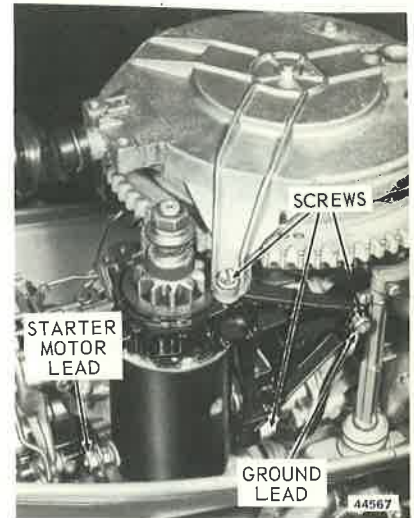

Figure 7-7. Starter
- Remove four cap screws attaching starter bracket and mounting bracket to motor. See Figure 7-7. Lift starter and bracket off bracket studs.